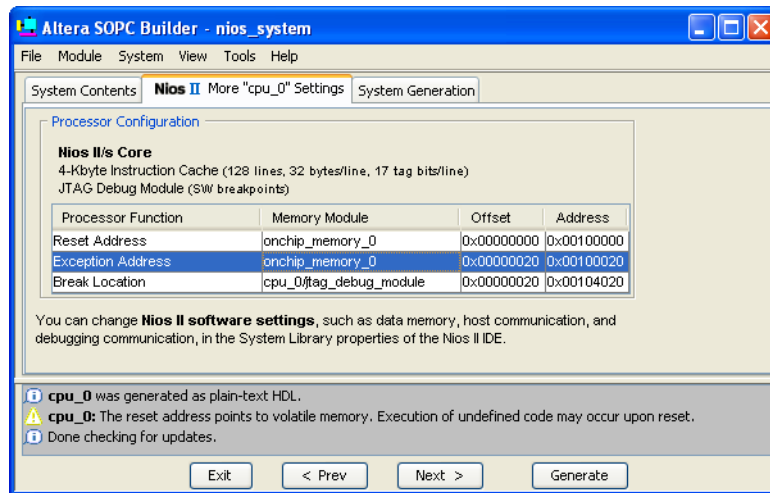

Figure 6. Setting the Exception and Reset addresses.
2. Generate the same system as in Part III. Note that if the SOPC Builder generated the addresses automatically, the on-chip memory will have addresses starting from 0x0100000 as indicated in Figure 3. Then, it is necessary to ensure that the Exception Handler (needed to use the interrupt mechanism) address is in the on-chip memory address range. This must be done when the system is generated by the SOPC Builder. Upon assigning the addresses (given in Figure 3), click on the tab Nios II More "cpu\_0" Settings and set the Exception and Reset addresses to the correct range as shown in Figure 6.